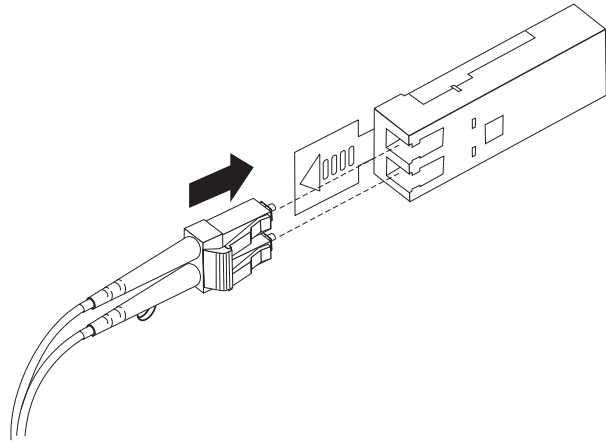

Figure 39. Inserting an LC-LC fibre-channel cable into an SFP module
4. Carefully insert this end of the LC-LC cable into an SFP module that is installed in the DS4700 Express. The cable connector is keyed to ensure it is inserted into the SFP module correctly. Holding the connector, push in the cable until it clicks into place, as shown in Figure 39.